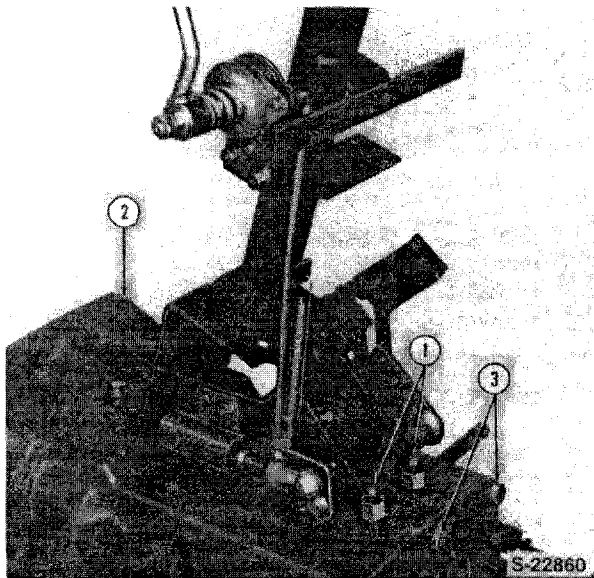

Figure 40
1. Remove the two test port adaptors (1), Figure 40.
3. Remove the clutch housing attaching bolts and remove the clutch housing, Figure 40.